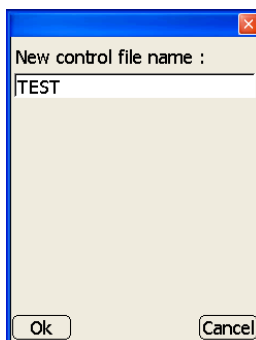

Figure 3-4. New Control File
- New – creates a new file by giving it a file name. After naming the file, press **Ok** to save the information (Figure 3-4).
- Rename – opens the *New control file name* dialog box (Figure 3-4 on page 3-3) for changing the name of the selected file.
- Save As – opens the *New control file name* dialog box (Figure 3-4 on page 3-3) for saving the selected file as another file.